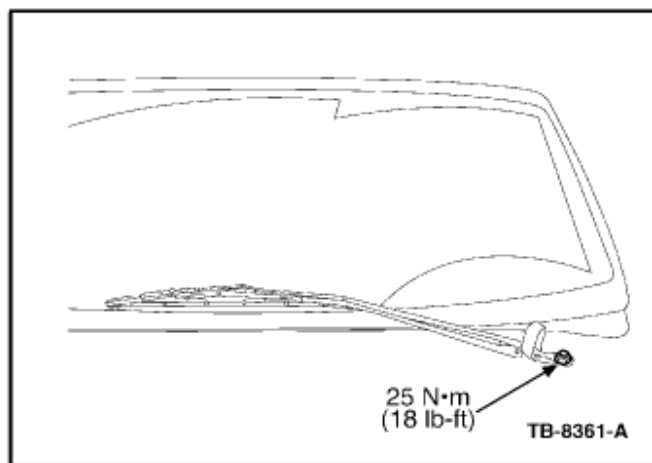

Figure 16
21. Install wiper pivot arms. (Figure 16)